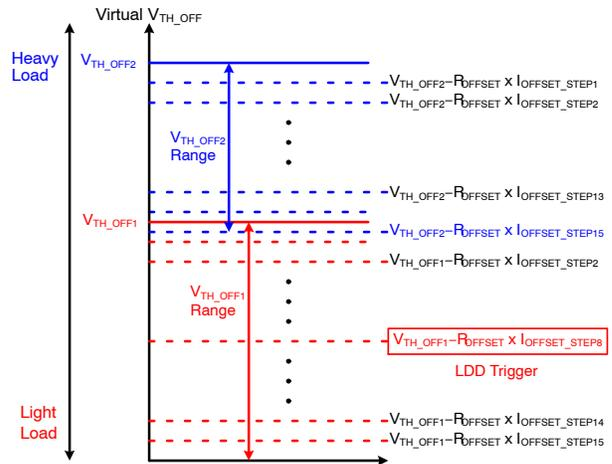

Figure 27. Light Load Detection
To guarantee stable operation under light load condition, FAN6248 adopts a light load detection function. The modulation current I_{OFFSET} is mainly used for the adaptive dead time control. When the output load is heavy, I_{OFFSET_STEP} declines due to large di/dt in the secondary side current to maintain 280 ns of t_{DEAD} in FAN6248HC(D). On the contrary, I_{OFFSET_STEP} increases at light load condition by small di/dt of SR current. FAN6248 can detect light load condition by using this I_{OFFSET_STEP} as shown in Figure 27. When SR turn-off threshold voltage is V_{TH_OFF1} and the modulation current is higher than I_{OFFEST_STEP8} , the light load detection is triggered. In this mode, dead time target becomes to 320 ns of t_{DEAD_LIGHT} in FAN6248HC(D) and 360 ns in FAN6248LC(D) version.